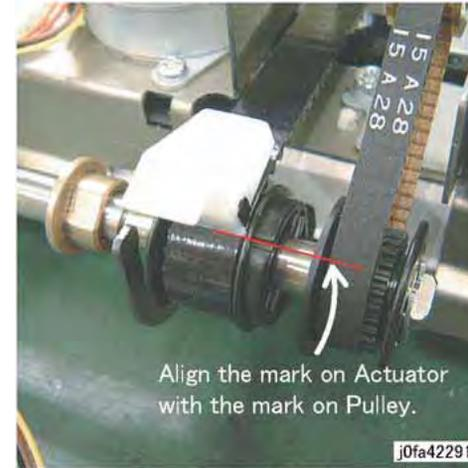

Figure 6 Align Eject Belt
2. Install and align the Eject Belt with marks on the Pulleys (Figure 5) (Figure 6):